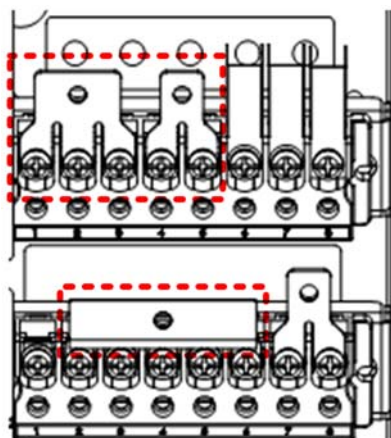

Figure 8-13 3-in 1-out, split bypass configuration (2)
b) Install the bypass input copper shorting bars to terminals (bA, bB, bC), and use the output shorting copper bars to connect the output terminals (oA, oB, oC) together. See Figure 8-13.